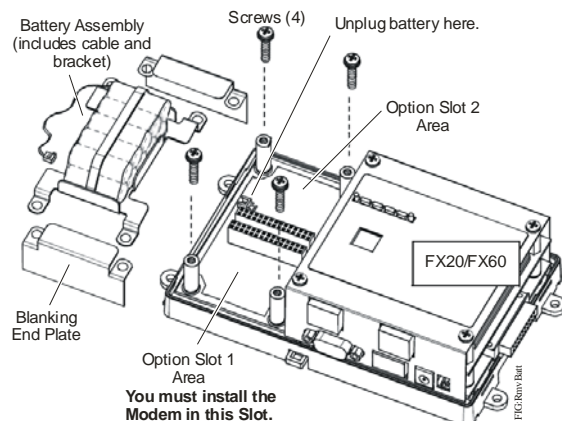

Figure 3: Removing Battery Assembly
4. Unplug the battery from the connector on the FX20/FX60/FX70 Supervisory Controller (see Figure 3).